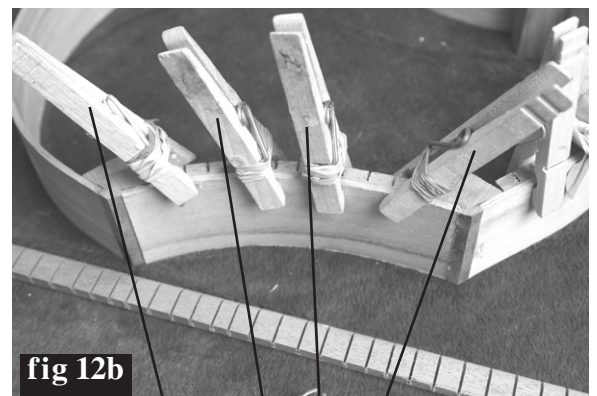

fig 12b
**CAUTION: FLAT EDGE UP!** Pay attention to how you orient the kerfing strips (fig 12b). Keep the flat edge flush with the edge of the rib, or a tad higher, and wipe off excess glue with a damp rag. Try to keep glue off the outside of the ribs, as that will show on the finished instrument.